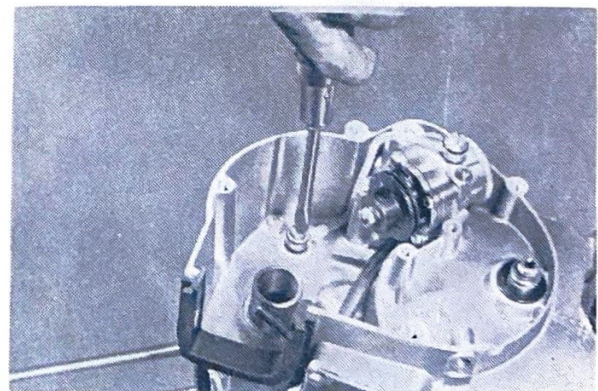

Fig. 3-8-2
- b. Remove the banjo bolt from the oil pump delivery pipe at the valve cover. (Fig. 3-8-2)